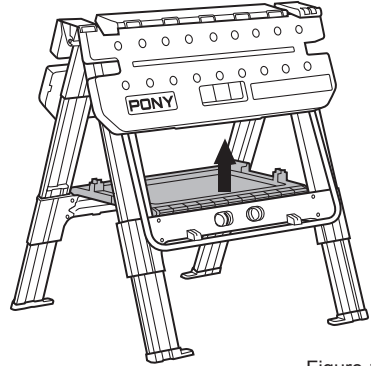

Figure 15
2. Lift the tool tray in the center to allow the legs to fold. (Figure 15)